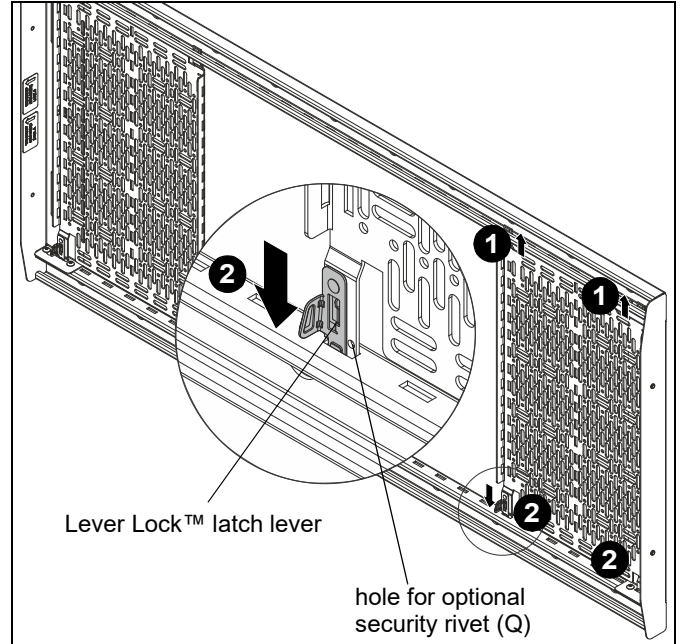

Figure 28
1. Slide Lever Lock™ backplanes (D) into slots on top side of rail assembly (C). (See Figure 28)
2. Slide Lever Lock™ backplanes (D) into slots on opposite side, making sure they "click" into place. (See Figure 28)